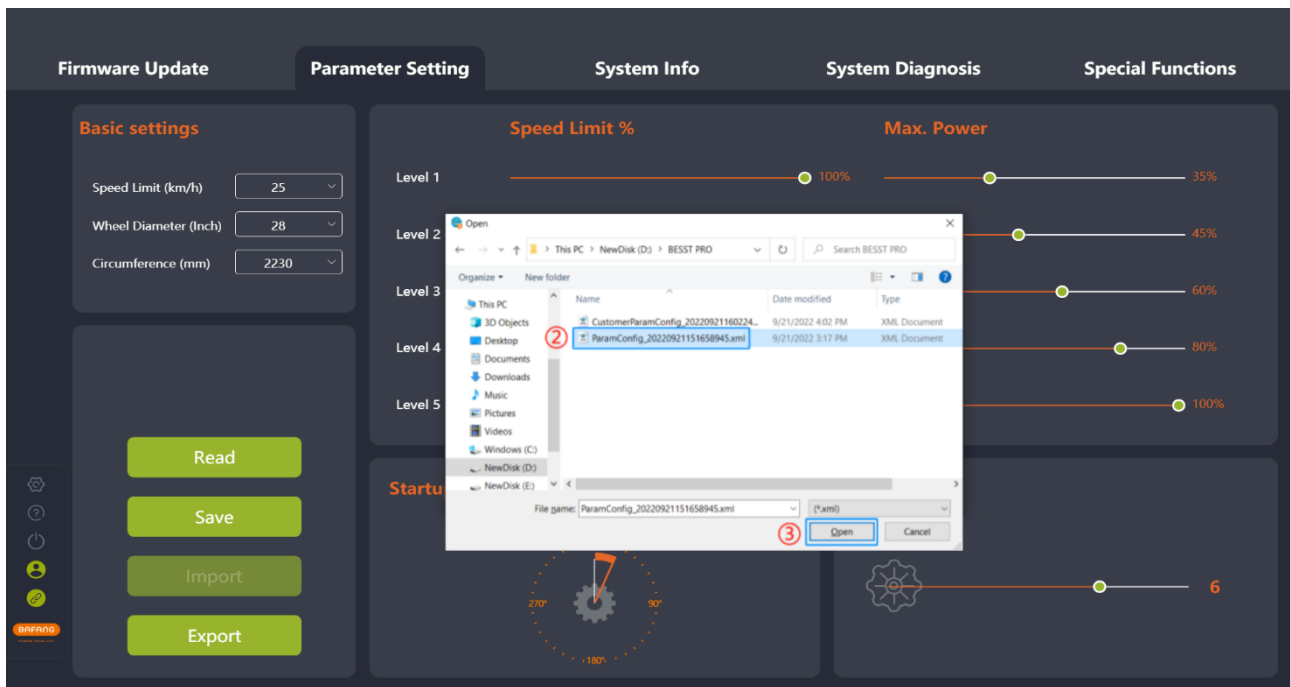

Fig. 5-8 Import
- (1) If you want to import the previously generated configuration file (in XML format) to the controller, click the "Import" icon. If you are not logged in, the login interface will pop up, prompting the user to log in (Fig.5-8).
- (2) Validation rules: The hardware version of the imported controller and the hardware version of the controller in the parameter file are consistent. If not consistent, a prompt should be given and the import should be rejected.
- (3) Select the local parameter configuration file.
- (4) Click the "Open" icon.